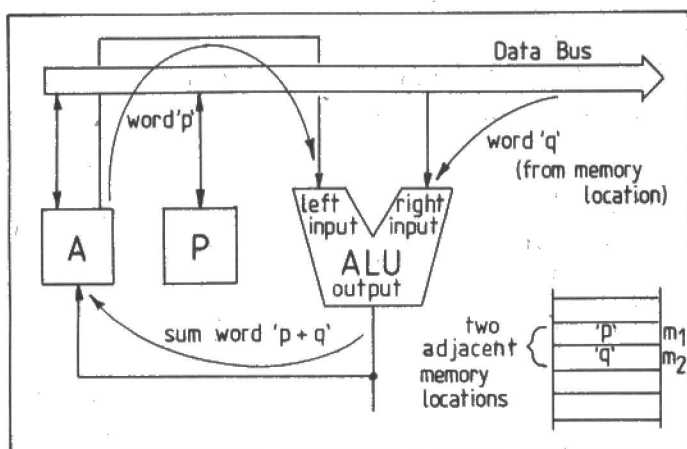
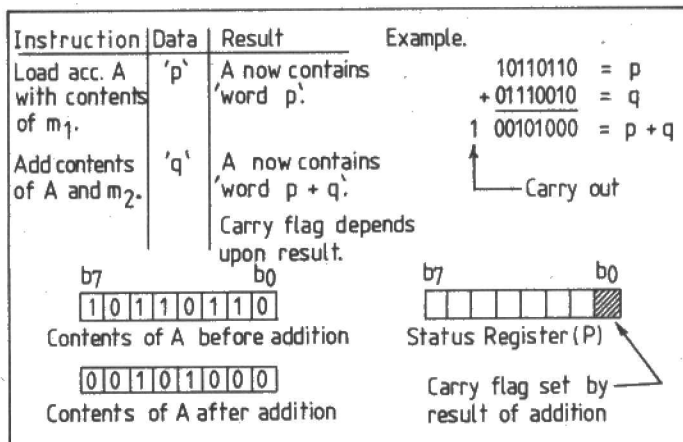

Figure 3. The Arithmetic-Logic Unit: flow of data during an addition.
Figure 4. Example of addition and effect on the 'carry' flag.
The Arithmetic Logic Unit, or ALU for short, is where the computing is really carried out. It is shown in Figure 3 in association with the Data Bus, Accumulator and Status Register. The ALU has two 'input ports' and an 'output port'. The arrows show the flow of data during the addition of two bytes of data. If the bytes or 'words' to be added are known as 'p' and 'q' respectively, then 'p' may be placed or 'loaded' into the accumulator initially and 'q' arrives on the data bus from some memory location at a subsequent interval of time later. At the moment that the addition operation is actually carried out, both 'p' and 'q' enter the ALU by their respective input ports, and their sum then leaves the ALU by the output port where it is placed in the accumulator, thus replacing the original contents 'p'. If the addition operation yields a 'carry bit', which is effectively the 9th bit of the result, this will set the carry flag C in the Status Register (P). Thus, at least temporarily, the carry is stored for subsequent use. An example of this series of operations with sample binary data is illustrated in Figure 4.